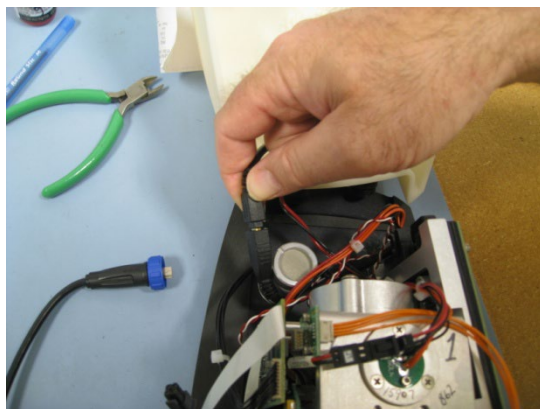

Figure 26. Disconnecting the USB cable.
- 4 Disconnect the USB cable. The USB connector is the black connector (see Figure 26).